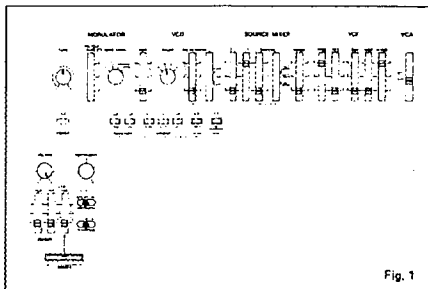

Fig. 1
- Set the panel controls as shown in Fig. 1.